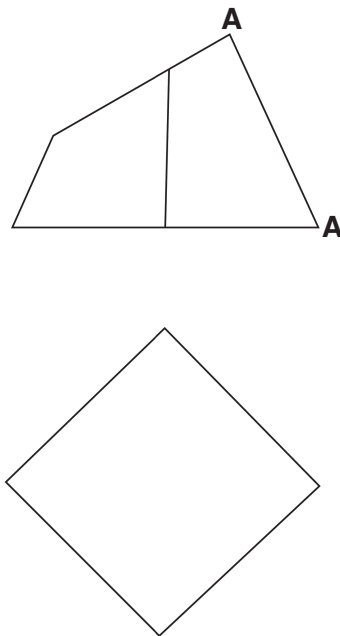

Fig. 5
- 6 Fig. 5 shows the front and incomplete plan view of a truncated square based pyramid.